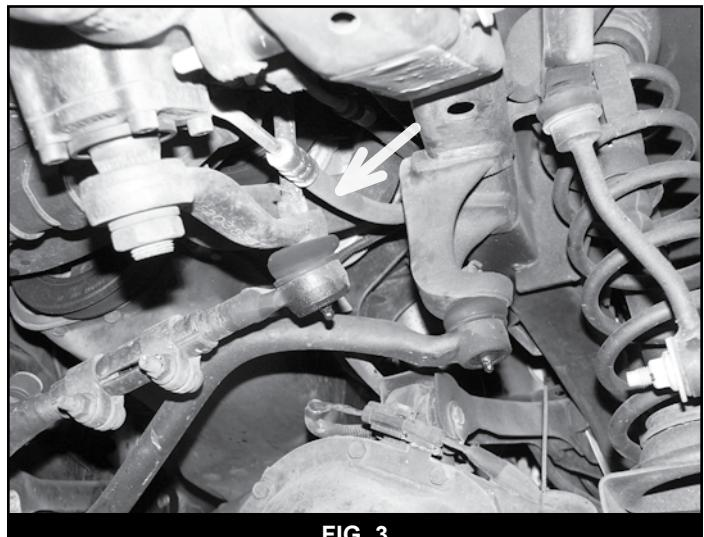

FIG. 3
- Remove the cotter pin and castellated nut from the drag link end at the pitman arm (Figure 3). Thread the nut back on a couple of turns. Strike the pitman arm near the drag link end to release the tapered seat. Take care not to damage the end. Remove the nut and the drag link from the pitman arm. Save hardware.